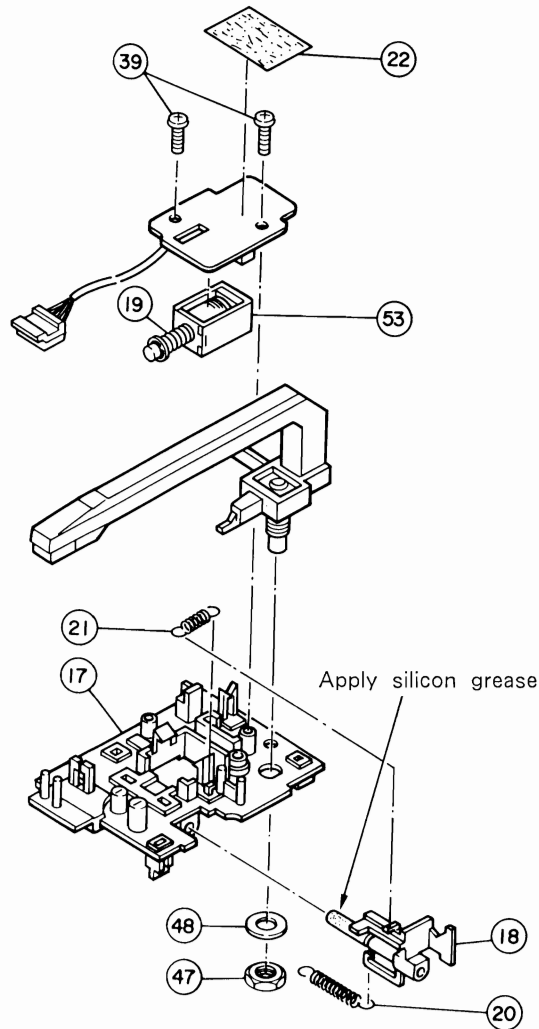

Figure 13
## (A) Assembly of Bracket Assembly (17) (Figure 13)
1. Apply silicon grease to lifter arm (18) and attach to the Bracket Assembly.
2. Attach spring A (21) and spring B (20) to the Bracket Assembly and the lifter arm.
3. Attach the solenoid coil (53). (Insert the spring (19) into the shaft of the solenoid coil.)